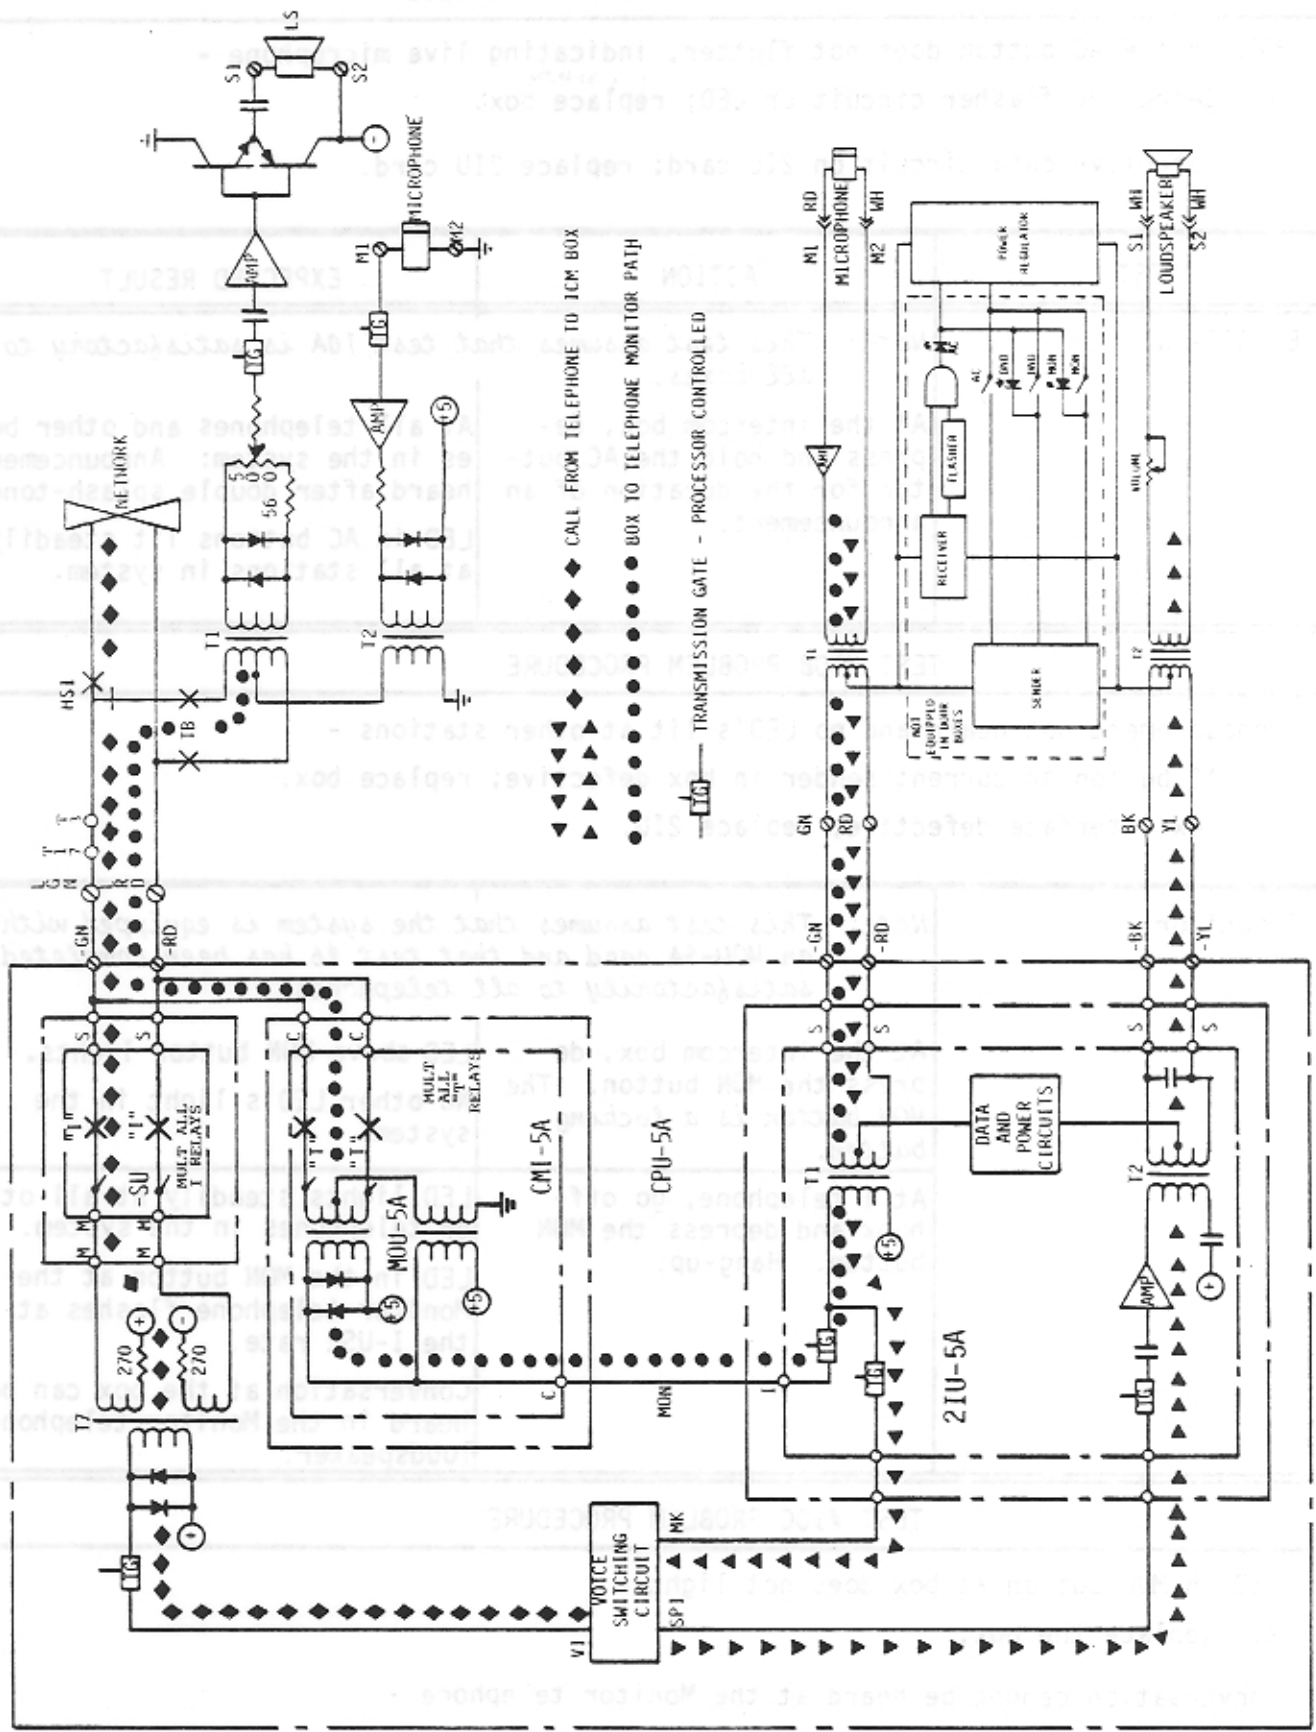

Figure 7 - Monitor and Intercom Audio Paths to Intercom Box - Simplified Schematic
- c. Check loudspeaker connections in intercom box (see figure 7).
- c. Check microphone connections in intercom box (see figure 7).